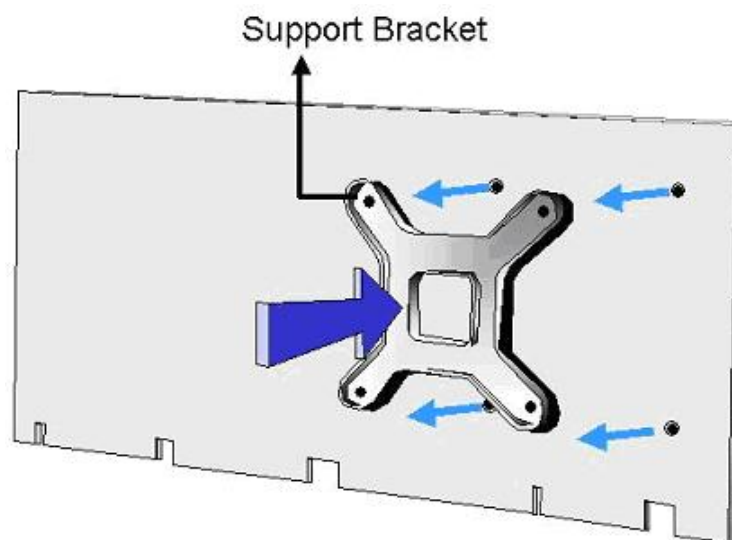

Figure 5-4: Securing the Cooling Kit
- Step 11:** Secure the cooling kit. From the solder side of the PCB, align the support bracket to the screw threads on heat sink that were inserted through the PCB holes. (See **Figure 5-4**)